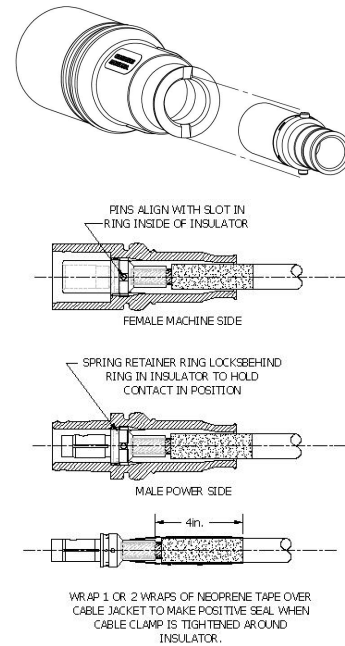

Figure 4
- Insulator should be clamped to cable using a hose clamp or may be vulcanized to the cable. Use one (1) or two (2) wraps of neoprene tape over cable before pulling into insulator.
- Position contact as shown in Figure 4 below by aligning the contact drive pins with the slots on the rear of insulator. Push contact into insulator from cable end of insulator. Push until pins on contact hit the ring inside of insulator, rotate insulator while pushing against cable until pins align with U shaped openings in internal ring. Push until retainer ring locks into metal ring inside of insulator. Pull back on cable to determine that it is locked together.